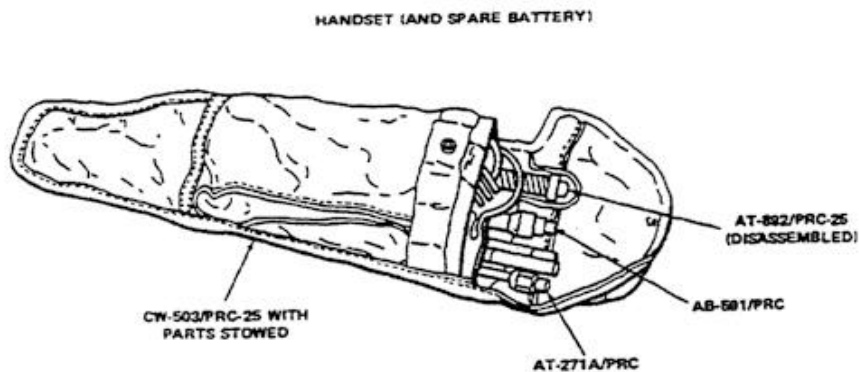

Figure D-4. Bag, Cotton Duck CW-503/PRC-25
(2) Antenna AT-271A/PRC. The AT-271A/PRC is composed of six sections; each section fits into the end of a wider section. A stainless-steel, plastic-covered cable (or braided plastic cord), under spring tension, is threaded through the sections to keep them together in the operating condition. When the sections are folded, the cable keeps them together as a group, to prevent the loss of individual sections. Spring tension is provided by a spiral spring in the base section. This antenna is used when maximum range is required.
(3) Support, Antenna AB-591A/PRC. The AB-591A/PRC, which is of rigid tubular construction, is used as a main support of the AT-271A/PRC.
(4) Harness, Electrical Equipment LC-2. The LC-2 is made of cotton duck. It is used to secure the RT-841/PRC-77 so that it can be carried on the operator's back.
(5) Bag, Cotton Duck CW-503/PRC-25. The CW-503/PRC25 is sectionalized into several pockets which are used to store the two antennas, the antenna support, and handset ((6) below) (Figure D-4).